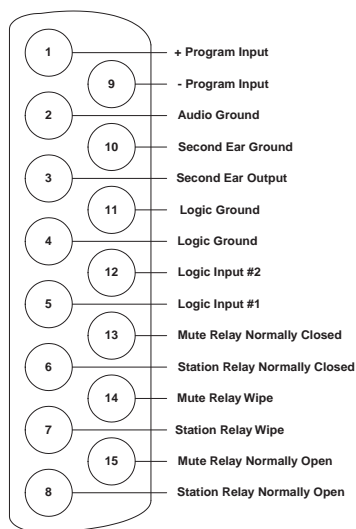

FIGURE S6-4: Miscellaneous connector pinout
2. Connect a shield or ground connection if available to the connector's pin 2 (see Figure S6-4 on page S6-5).
Use normally open type switches to activate the logic inputs. Connect the switches as follows (Figure S6-4 on page S6-5):